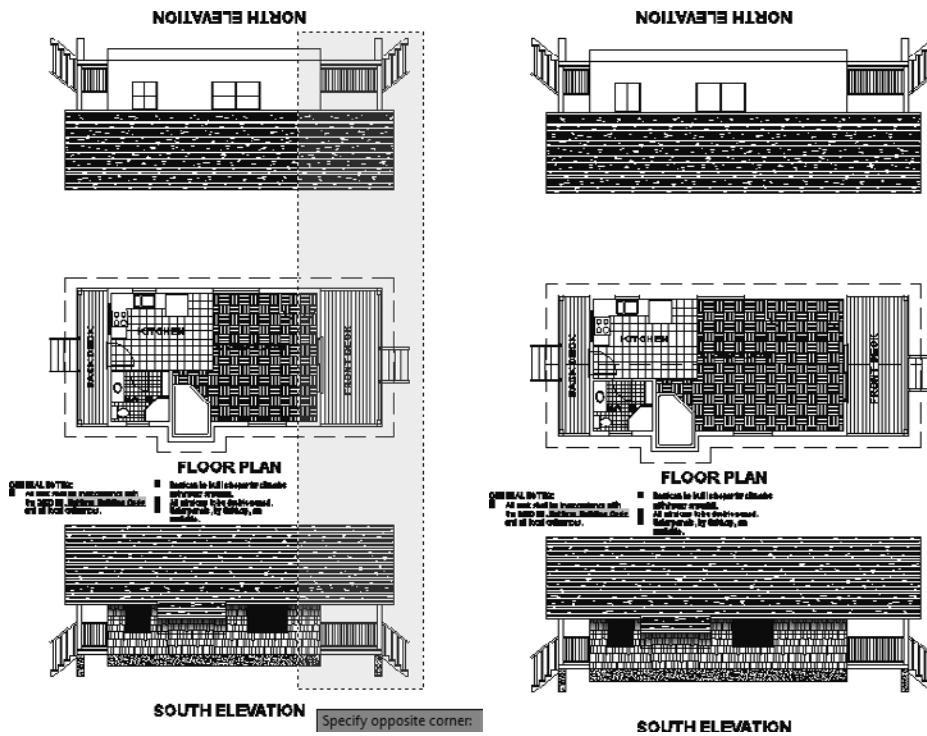

FIGURE 11.25 The crossing selection window (left) and the modified cabin with the adjusted hatch patterns (right)
5. Pick a point above and to the right of the stairway in the north elevation. Drag a window down and to the left until a crossing selection window lands between the two closet doors in the floor plan and ends below the cabin in the south elevation (see the left image of Figure 11.25). Click to complete the window. Then press ↵ to finish the selection process.
8. The living room and roof are now longer, and the hatch patterns have expanded to fill the new areas (see the right image of Figure 11.25).